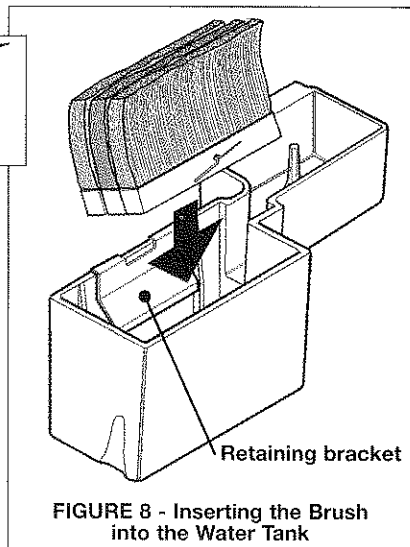

FIGURE 8 - Inserting the Brush into the Water Tank
1. Insert the brush assembly in the water tank. The brush assembly must be tilted toward the dispenser so that the cotter pin will clear the retaining bracket as it is pressed into place. See *Figure 8*. Then rotate the brush forward so that it seats flatly on the bottom of the water tank. The edge of the base of the brush should be under the retaining bracket.